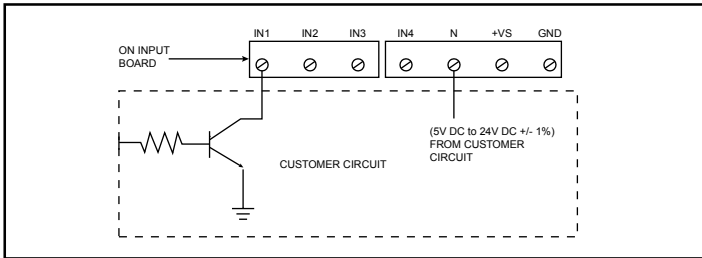

Figure 8. Wiring an Open Collector Transistor to Tone Generator Input Board
- c. For the tone generator, select the appropriate method of wiring to the input board from Figures 8, 9, 10, 11, 16 or 17. Connect the tone generator as shown.
- c. For the tone generator, select the appropriate method of wiring to the input board from Figures 8, 9, 10, 11, 12, 16 or 17. Connect the tone generator as shown.